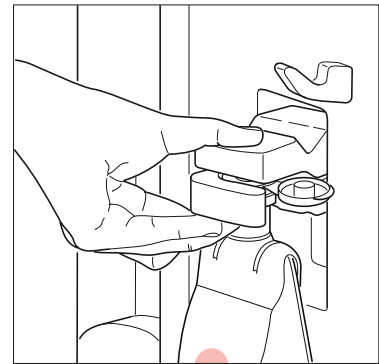

Figure 3
4. Press down the SelectBag holder arm so that the membrane of the SelectBag container is penetrated by the spike (see “Figure 3” below).